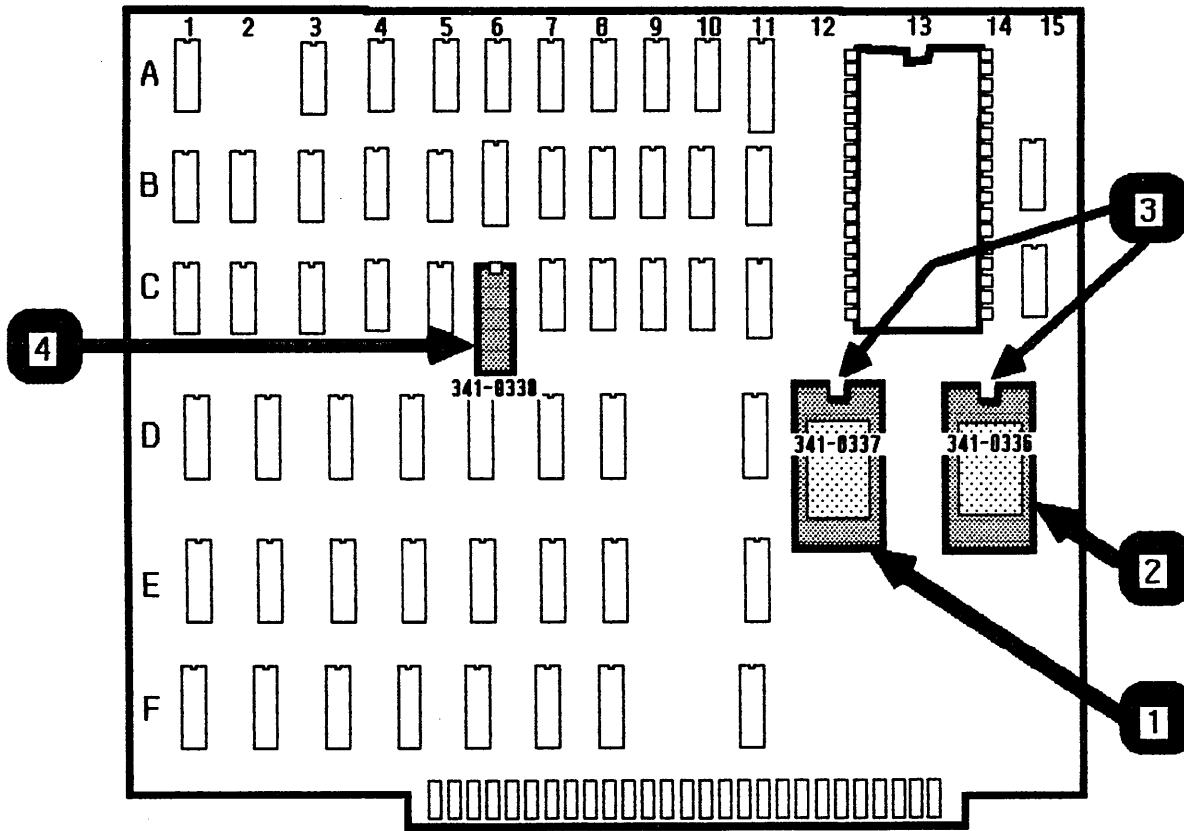

FIGURE 1
a) Use an IC puller to remove the two boot ROMs (Figure 1, #1 & 2) from the CPU board.
CAUTION: When installing ROMs be sure to orient them so that the notches (Figure 1, #3) are facing the same direction as the notches on the surrounding chips.
b) Remove the new 28-pin ROM (P/N 341-0337) from the anti-static bag and carefully insert it into the socket at location 13-D (Figure 1, #1).
c) Remove the new 28-pin ROM (P/N 341-0336) from the anti-static bag and insert it into the socket at location 14-D (Figure 1, #2).
d) Use an IC puller to remove the 20-pin video state machine ROM at location 6-C (Figure 1, #4).
e) Remove the new video state machine ROM (P/N 341-0338) from the anti-static bag and insert it into the socket at location 6-C (Figure 1, #4).